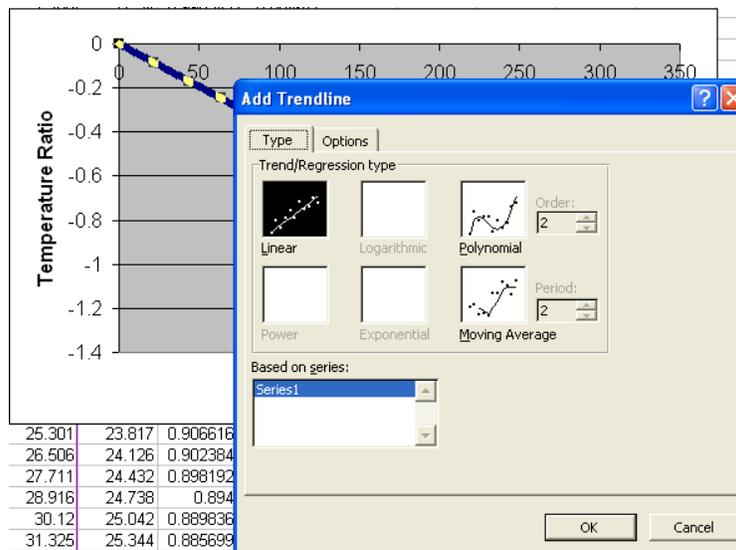
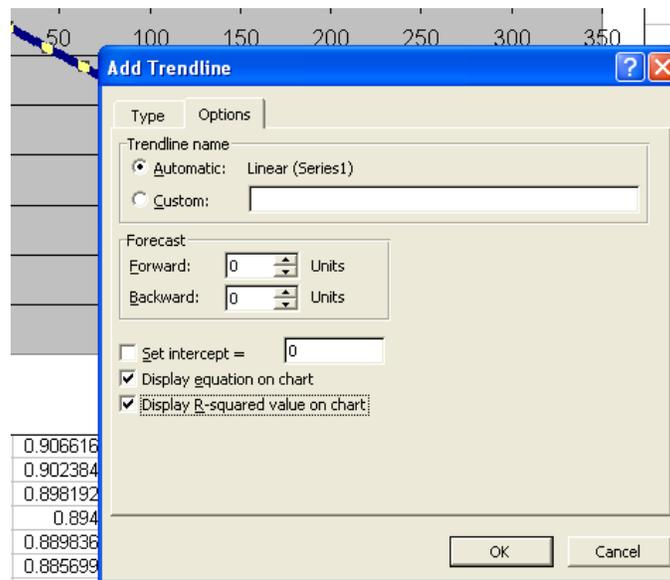

Figure 1.14. The *Trend/Regression type* window of the **Trendline** feature in Microsoft Excel. *Linear* trend is highlighted as a default option.
Figure 1.15. The *Options* tab of the **Trendline** feature in Microsoft Excel, and selection of *Display equation on chart* and *R-squared value on chart*.
- For the **Trendline** feature, right click mouse when pointing on the line. A list of options will be displayed as shown in Figure 1.13. Select **Add Trendline...** (Fig. 1.13). A window showing the **Type of Trend/Regression** will be shown, select the default option **Linear**. (Fig. 1.14). Next, select the second tab in this window named **Options**. In the next window, select **Display equation** and **Display R-squared value on chart** (Fig. 1.15), continue by selecting **OK** button to display the regression equation on the chart with its  $R^2$  value as shown in Figure (1.16).